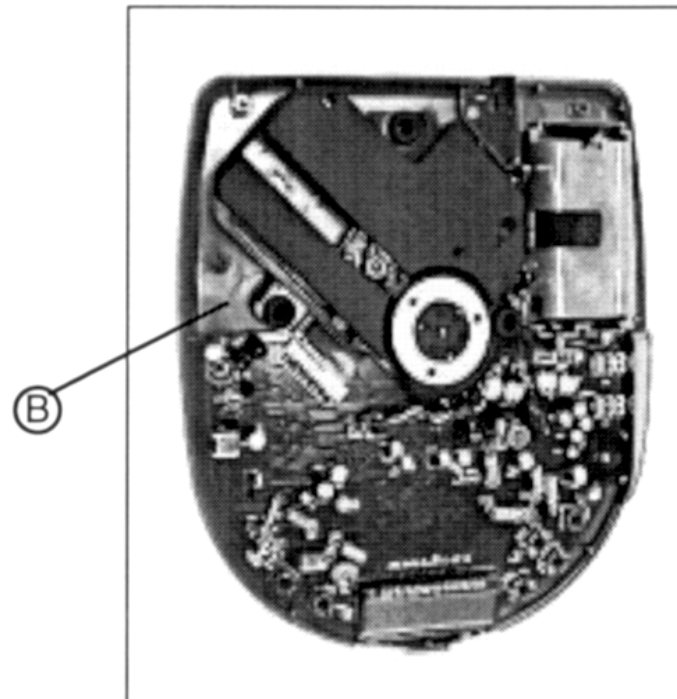

Fig. 2
- Remove the REAR CABINET with CD MECH. & PCB **(B)** (Fig. 2)